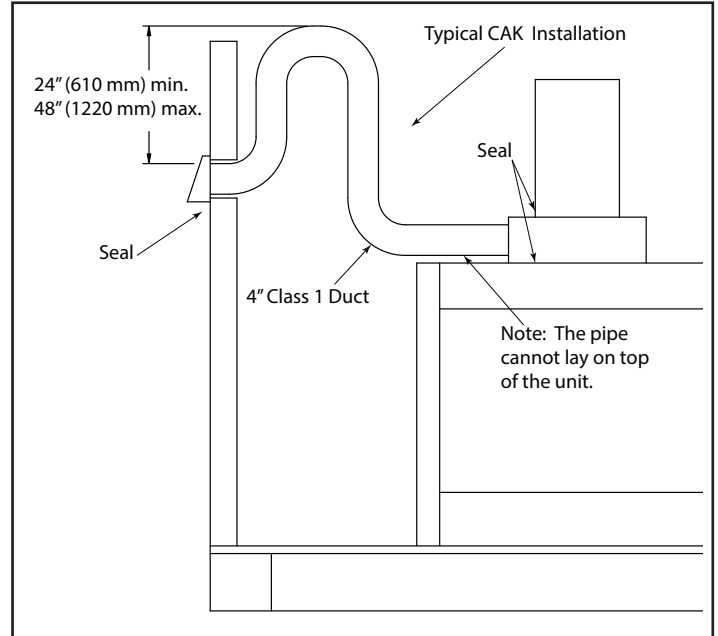

Figure 5 - P Trap Installation Using Flex Pipe
- When using the chimney air kit (CAK) and the outside air kits, it is recommended that you install a P trap as shown in Figure 5 by bending the flex duct, or using 90° elbows if using rigid duct to help prevent air circulation when the fireplace is not in use.